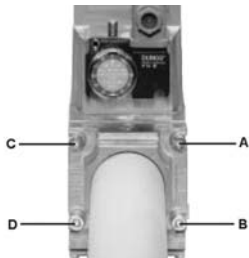

Fig. 7
1. Loosen screws A and B **do not** unscrew (Fig. 7 - Fig. 8).
2. unscrew screws C and D (Fig. 7 - Fig. 8).